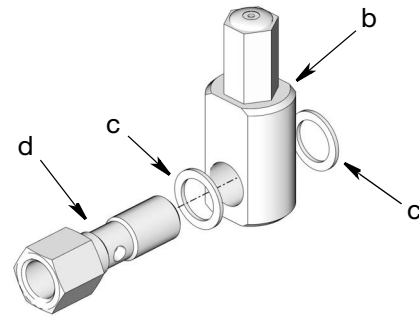

FIG. 34
- c. Install one washer (c) over end banjo bolt (d). Then install banjo fitting (b) on banjo bolt, followed by the second washer (c) (FIG. 34).